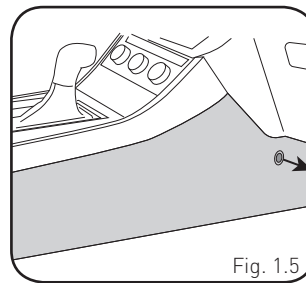

Fig. 1.5
- Remove one (1) T20 Torx screw from the center console side panel, and release the clips to remove. (Fig. 1.5)